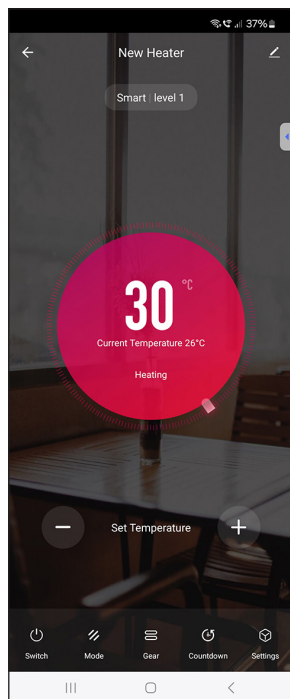

fig. 11
- The current temperature will be displayed and the desired temperature can now be set (see fig. 11)
- Press the settings icon at the bottom of the screen to enter timer mode (see fig. 11)